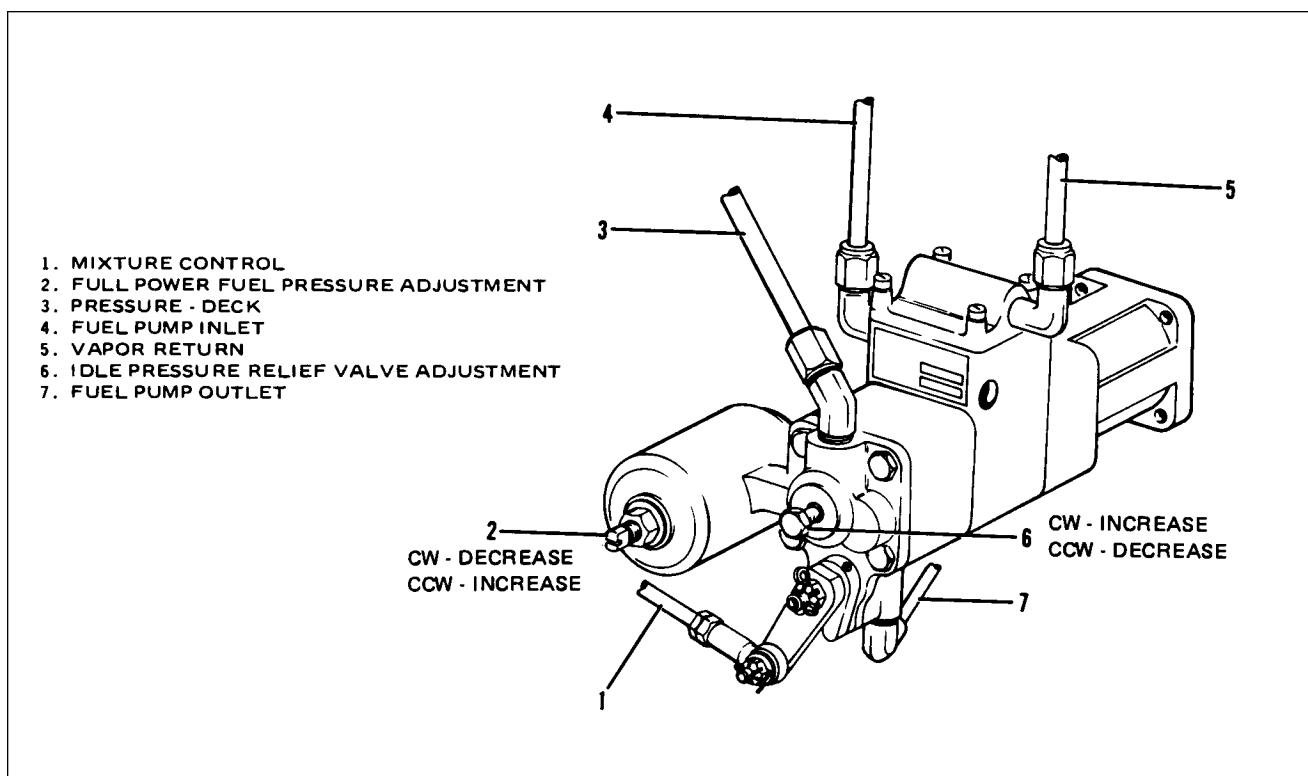

Figure 8-35. Sectional View of Altitude Compensating Fuel Pump Assembly
3. While maintaining 700 ± 25 RPM, set the idle fuel pressure at 6.5 ± 0.25 psi by adjusting the idle pump adjustment screw (refer to Figure 8-35, item 6); clockwise adjustment increases pressure; counterclockwise adjustment decreases pressure.
- g. Adjustment for Full Power Performance: (Refer to Figure 8-35.)
3. If adjustment is required, loosen the jam nut on the adjusting screw located on the aneroid housing of the fuel pump. (Refer to Figure 8-35, item 2.) Clockwise adjustment decreases fuel flow reading; counterclockwise adjustment increases fuel flow reading; one full turn will cause a 1.0 to 1.5 gph change. Use CAUTION when loosening and tightening the jam nut so as not to change settings or over torque the jam nut.